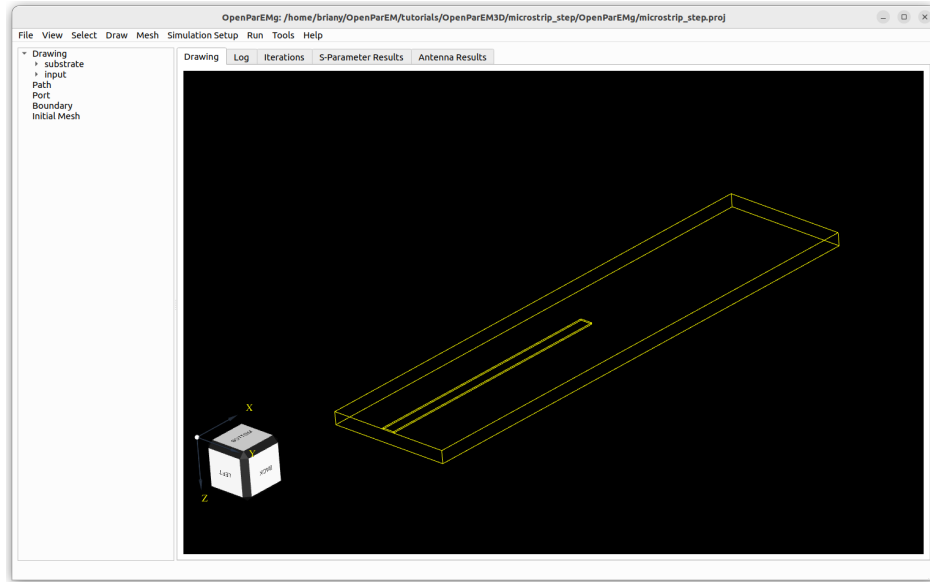

Figure 8: Substrate and input microstrip.
- Right-click the selected input microstrip, select **Move**, click the center of the bottom of the end, and then click the center of the top of the substrate. The drawing should look like that in Fig. 8.